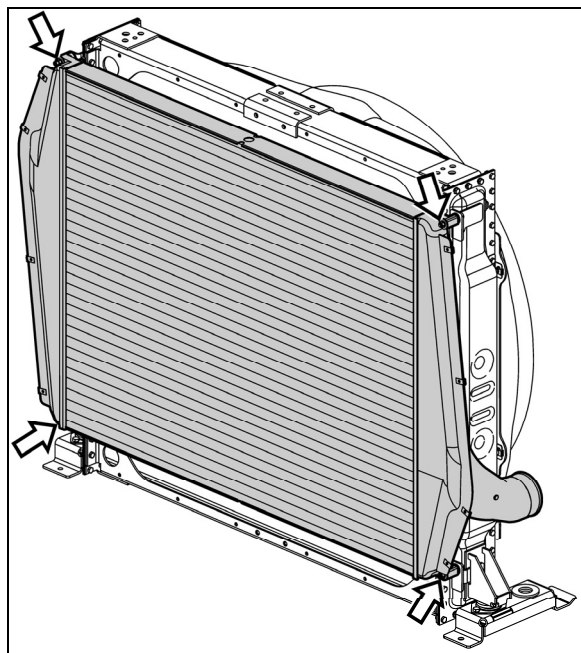

FIGURE 23: SEPARATING CHARGE AIR COOLER
18. Separate charge air cooler from radiator (Fig. 23).